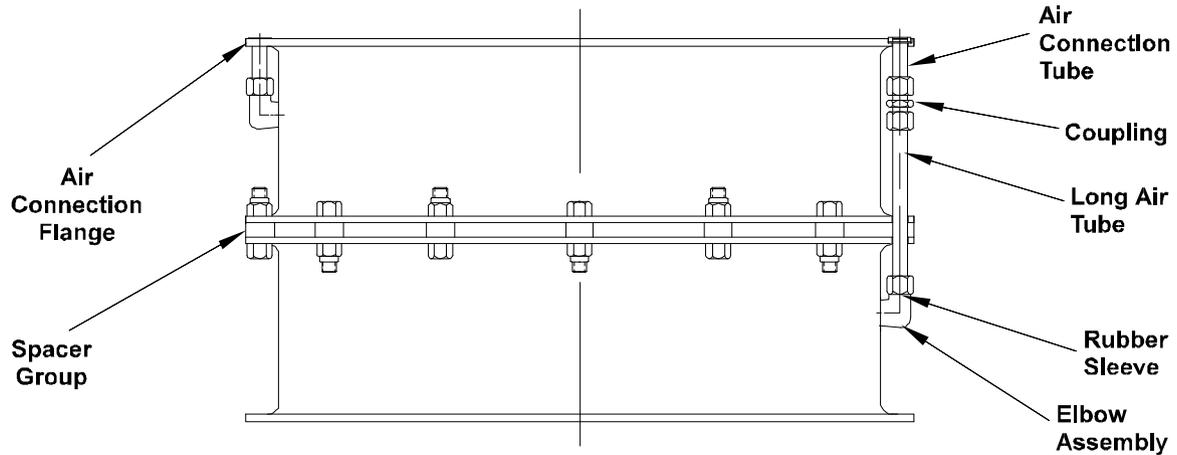

Figure 11
- 4.3.2 Disassemble the long air tube group. See Figure 11.